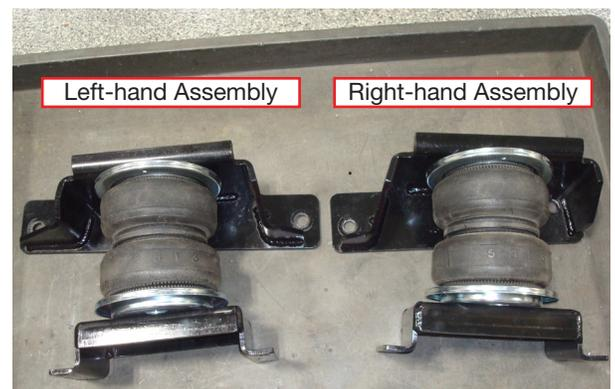

Fig. 6
4. Finished left- and right-hand air spring assemblies shown (Fig. 6).